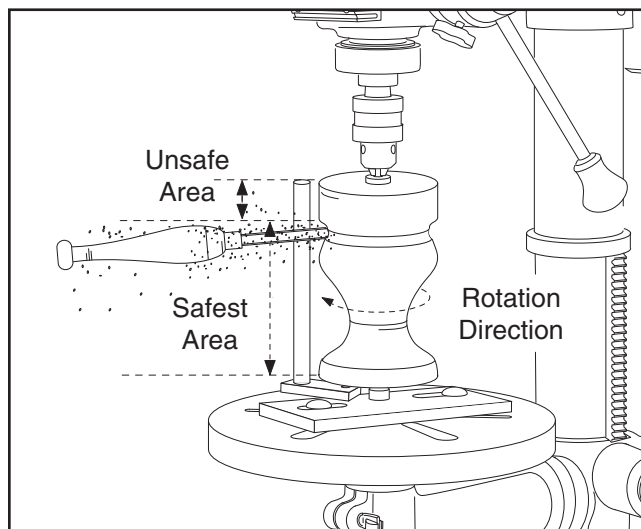

Figure 7. Typical turning operation.
12. Keeping the chisel within the safest working area shown in **Figure 7**, carefully slide the chisel up and down along the tool rest to shape the wood. Keep in mind that the closer the chisel moves toward the end of the tool rest the easier it is to slide the chisel off of the end. Working closer to the end of the rest can also increase tool chatter. As workpiece diameter decreases, readjust the tool rest as required to keep the gap at a safe minimum.